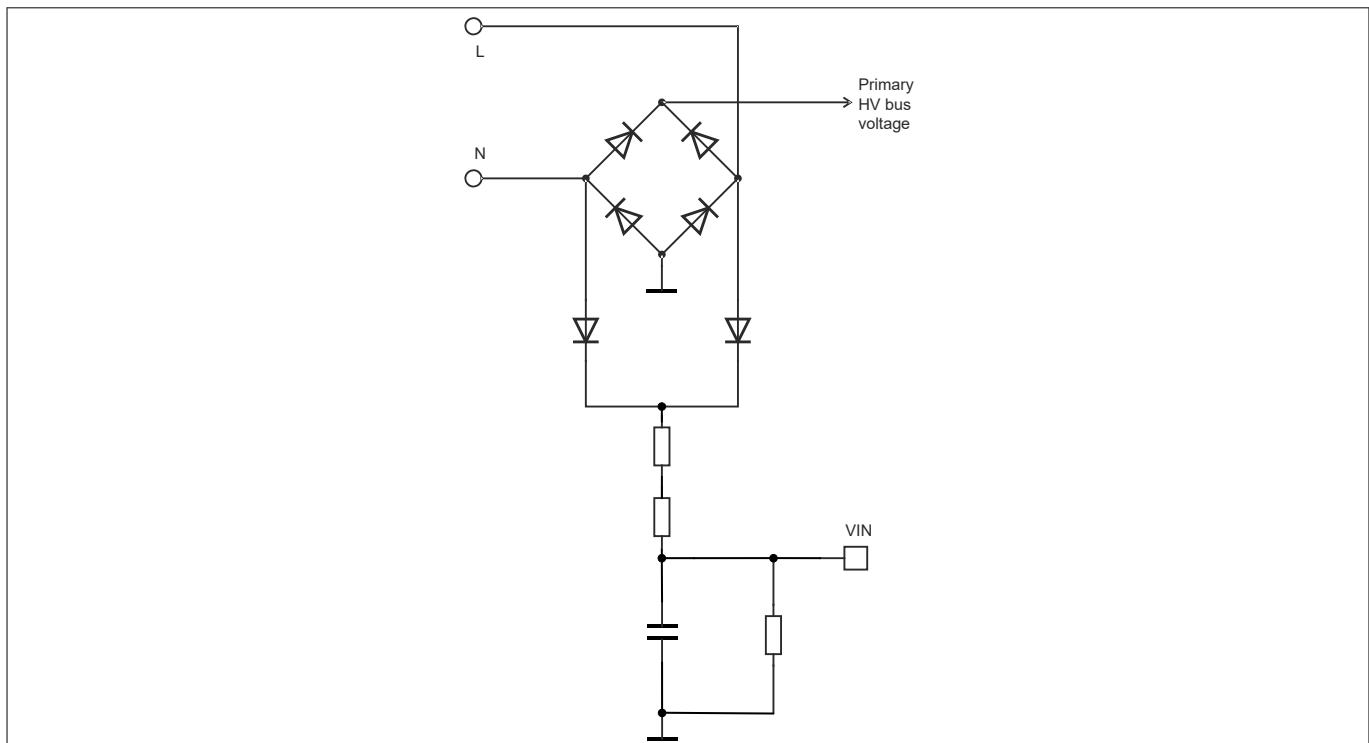
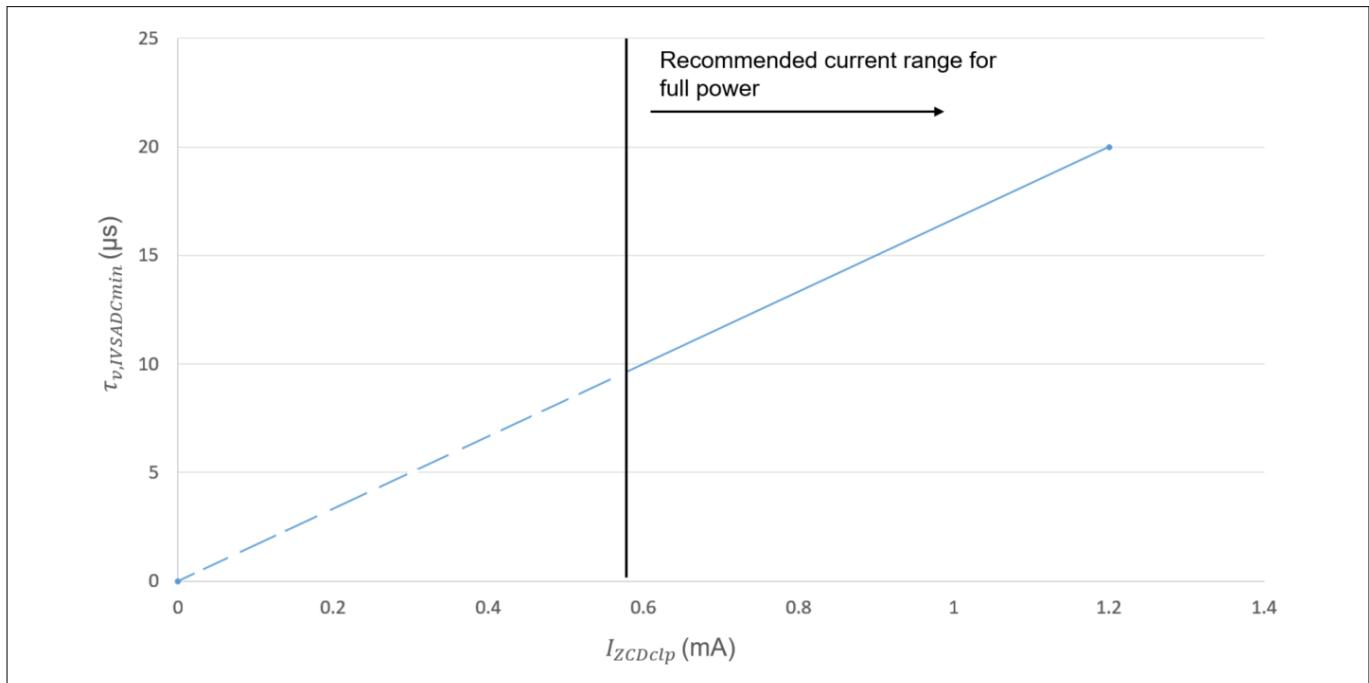
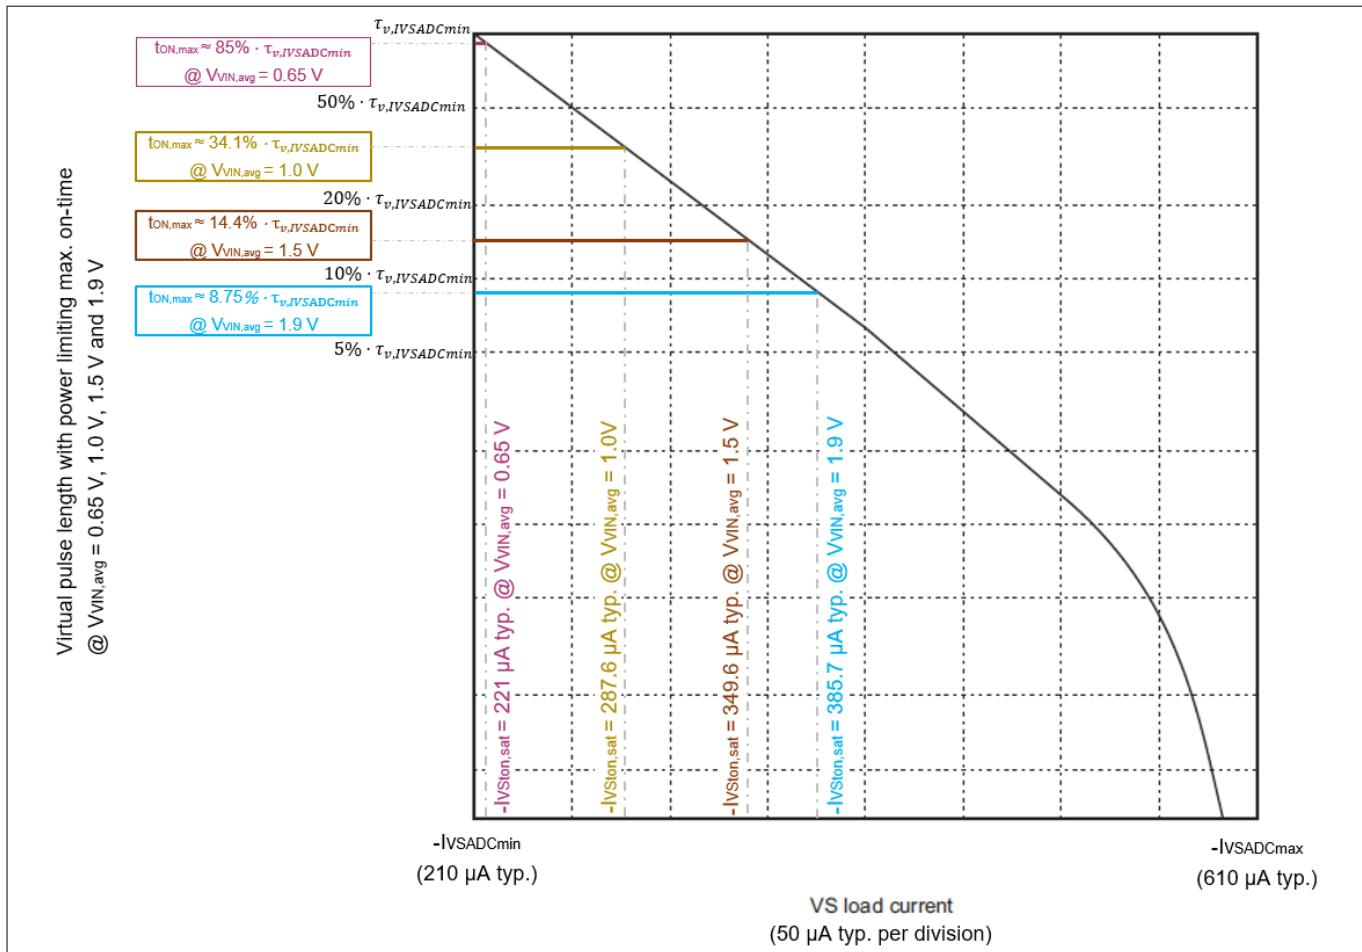

Figure 6 V_{IN} pin circuit
Figure 14 Virtual pulse length at $I_{VSADCmin}$, $\tau_{v,IVSADCmin}$ versus ZCD peak to peak settled clamping current, I_{ZCDclp}
Figure 15 Virtual pulse length mapping with power limiting maximum on-time effect
1. Based on $I_{ZCDclp} = 1.2$ mA, obtain $\tau_{v,IVSADCmin} = 20$ μ s from Figure 14.
For $t_{ON,max}$ estimation, it is important to note that $\tau_{v,IVSADCmin}$ changes with different $V_{VIN,avg}$ level, when the input voltage detection circuit in Figure 6 is applied. This is because $\tau_{v,IVSADCmin}$ is scaled depending on I_{ZCDclp} in Figure 14, while I_{ZCDclp} is dependent on the input voltage, as explained in ZCD pin signal sensing.
Figure 15 shows the virtual pulse length with the power limiting maximum on-time effect, when $V_{VIN,avg}$ is 0.65 V, 1.0 V, 1.5 V and 1.9 V, respectively.
When $V_{VIN,avg}$ is at the brownin level ($V_{BI} = 0.65$ V typ.), the power limitation is enabled with $t_{ON,max} = 85\%$ of $\tau_{v,IVSADCmin}$, as shown in Figure 15. For example, if the desired $t_{ON,max}$ at brownin level is 17 μ s typ., it is necessary to have $\tau_{v,IVSADCmin} = 17 \mu\text{s} / 85\% = 20 \mu\text{s}$. And, according to Figure 14, $\tau_{v,IVSADCmin} = 20 \mu\text{s}$ is obtained when $I_{ZCDclp} = 1.2$ mA is applied. As a result, to achieve $t_{ON,max} = 17 \mu\text{s}$ typ. at brownin level, R_{ZCD} should be dimensioned to produce $I_{ZCDclp} = 1.2$ mA typ. at brownin level.